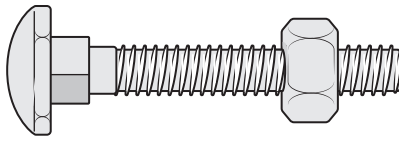

Fig. 12.4
- (e) Fig. 12.4 shows a coach bolt and nut.